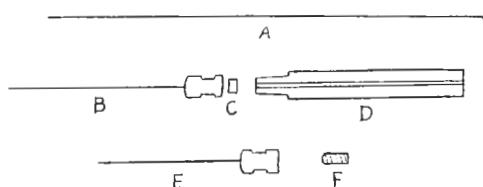

Fig. 1
Fig. 1 shows (A) a piece of 0.2 mm. dia. tungsten wire with a bead of silver solder at one end, (B) a LUER fitting No. 26 x $2\frac{1}{2}$ in. serum needle, (C) a disc of silicone rubber cut from $\frac{1}{16}$ in. sheet with a No. 1 cork borer, (D) an 8 cm. length of 1.5 mm. bore glass capillary tube, with tapered end ground to fit the socket of the No. 26 needle, (E) a No. 11 serum needle with the socket tapped to take the 4 B.A. grub screw (F).